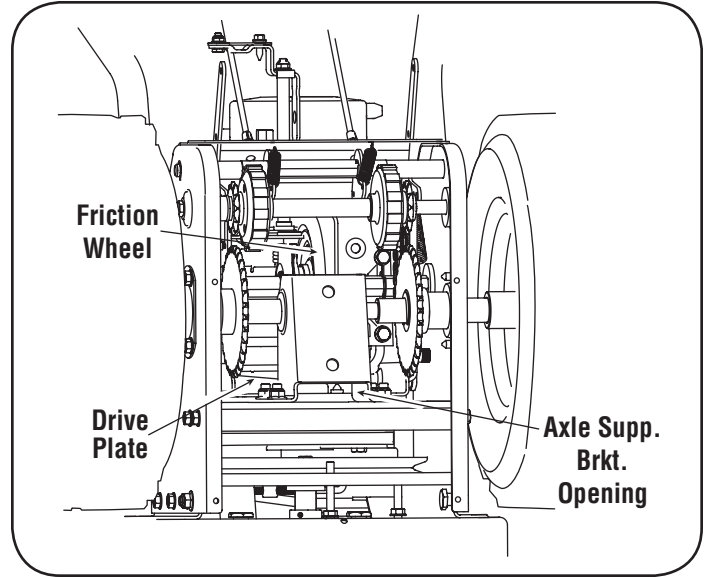

Figure 20
2. Locate the opening between the axle support bracket and the front frame support (See Figure 20). Looking through this opening, with the drive control released, there must be clearance between the friction wheel and the drive plate in all positions of the shift lever.
3. With the drive control engaged, the friction wheel must contact the drive plate. See Figure 20.